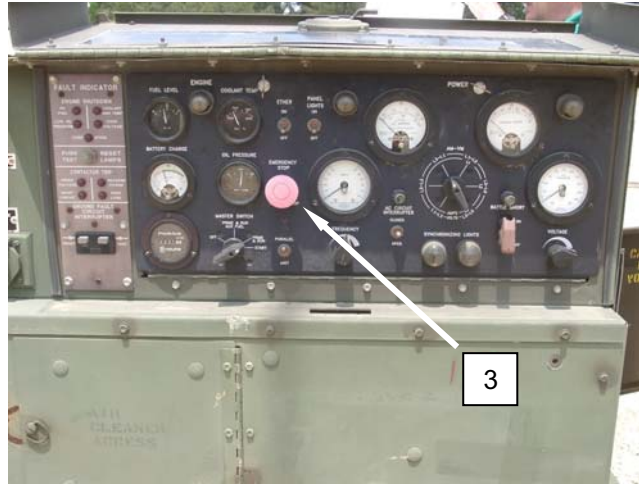

Figure 17. CBL Shut Down Procedure during NBC Imminent or Actual Attack.
2. If using a generator, press emergency stop button (**Figure 17, Item 3**), then disconnect. If using municipal power, disconnect.